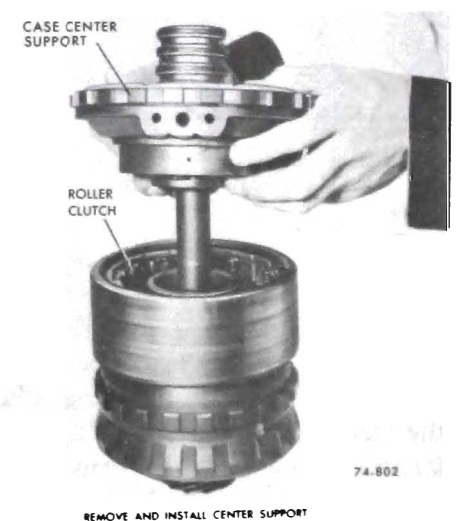

Figure 76-558
1. Remove center support assembly. See Figure 76-558.